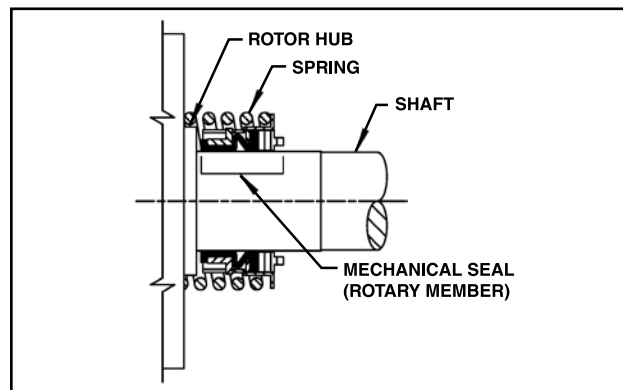

Figure 32
4. Place tapered installation sleeve on shaft. Refer to Figure 32. Sleeve is furnished with GG, AS, AK, and AL replacement mechanical seals. Coat rotor shaft, tapered installation sleeve, and inner diameter of mechanical seal rotary member with a generous amount of refrigeration oil. Petrolatum may be used but grease is not recommended.
5. Place seal spring on the shaft against the rotor hub. Refer to Figure 32.